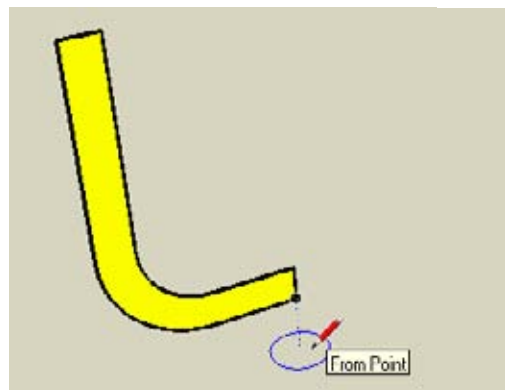

Figure 2-56
- Follow Me sometimes breaks faces (unless the Follow Me face is a group or component), but this won't happen if the path and face are not touching. So move the mouse straight down from the inference point, and click to place the center of the circle below the Follow Me face (Figure 2-56).